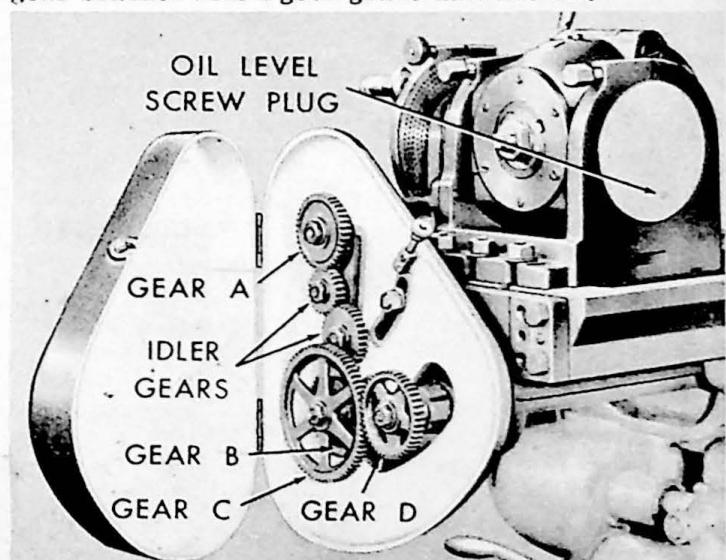

Fig. 7. Idler Gears in Conventional Lead Attachment
Two reservoirs supply oil to the spindle and the worm and hypoid gearing. The reservoirs are filled through screw plug openings, one (24) on top and in the center of the dividing head and one on the top but near the index plate. The oil level in each reservoir should be checked periodically. This is done by removing two screw plugs, one (20) near the index plate and the other shown in Figure 7 on the opposite side of the dividing head, and adding oil until the level is
When milling spirals, it may be necessary to use idler gears as shown in Figure 7. One idler is required for left hand spirals and two or none, depending on the space available, for right hand spirals.